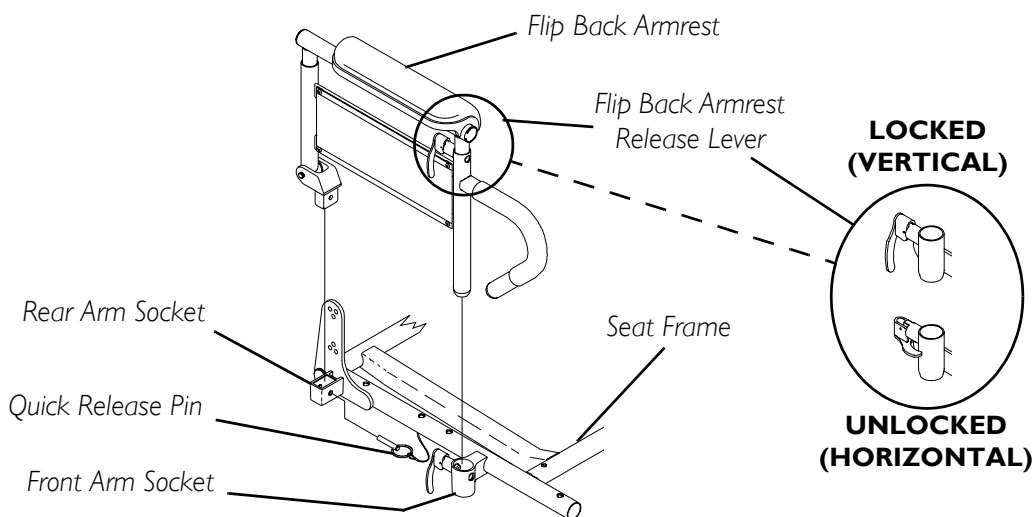

FIGURE 6.1 - INSTALLING/REMOVING FLIP BACK ARMRESTS
NOTE: For this procedure, refer to FIGURE 6.1.
3. Lock flip back armrest by pressing flip back armrest release lever into the LOCKED position (FIGURE 6.1).
1. Unlock flip back armrest by pulling flip back armrest release lever into the UNLOCKED position (FIGURE 6.1).